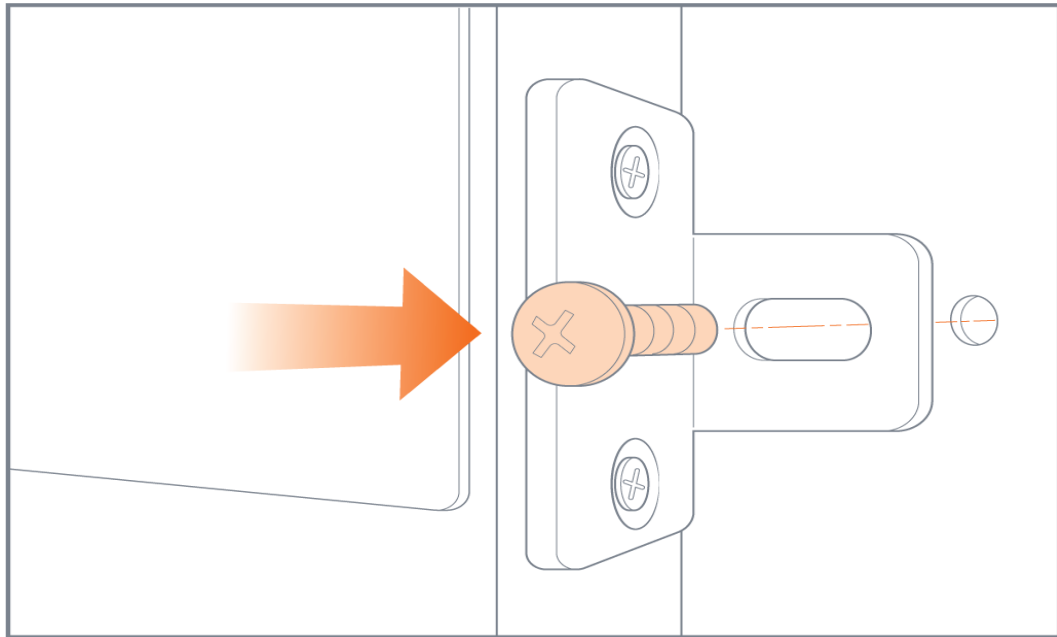

Figure 3-4: Locking Rack Ear Attached to Rack
9. Insert the screw through the locking rack ear on the chassis to secure the node in place and keep it from sliding out of the slide rail. Tighten the screw. Refer to Figure 3-4 on page 53.